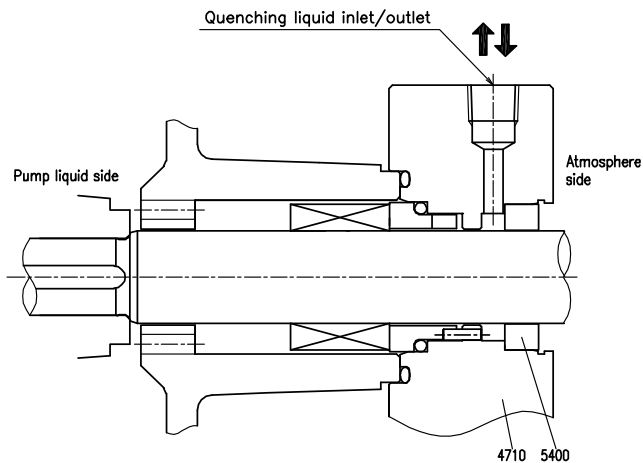
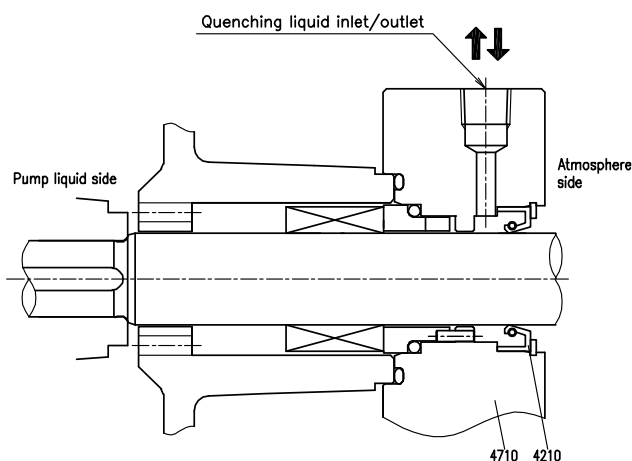

Fig 5.2-7 Quench (Carbon bush type)
Fig 5.2-8 Quench (Oil seal type)
For the carbon bush type quench structure, refer to Fig 5.2-7. For the oil carbon bush type quench structure, refer to Fig 5.2-8.
- (3) Apply an appropriate amount of oil to the packing (4100) or the O-ring (4120.2), and the shaft. Then, fit the mechanical seal for the rotary side on the shaft, according to the dimension A (shown in Figs. Fig 5.2-2, 5.2-4, 5.2-5, 5.2-6, Fig 5.2-7, Fig 5.2-8 and 5.2-10) (P.14–P.18), and fasten the mechanical seal with the set bolt (9040) securely. Mechanical seal of LCA type:
- (4) After completion of the above mounting procedure, re-check if the set bolt is securely tightened, and make sure that the washer normally works.
- (5) Mount the casing cover (1610) to the bearing housing (3300).
- (6) Mount the seal cover to the casing cover. First, tighten the cover temporarily according to the procedure described in Section 4.3 (P.12). After mounting the impeller (2300), tighten the cover completely.